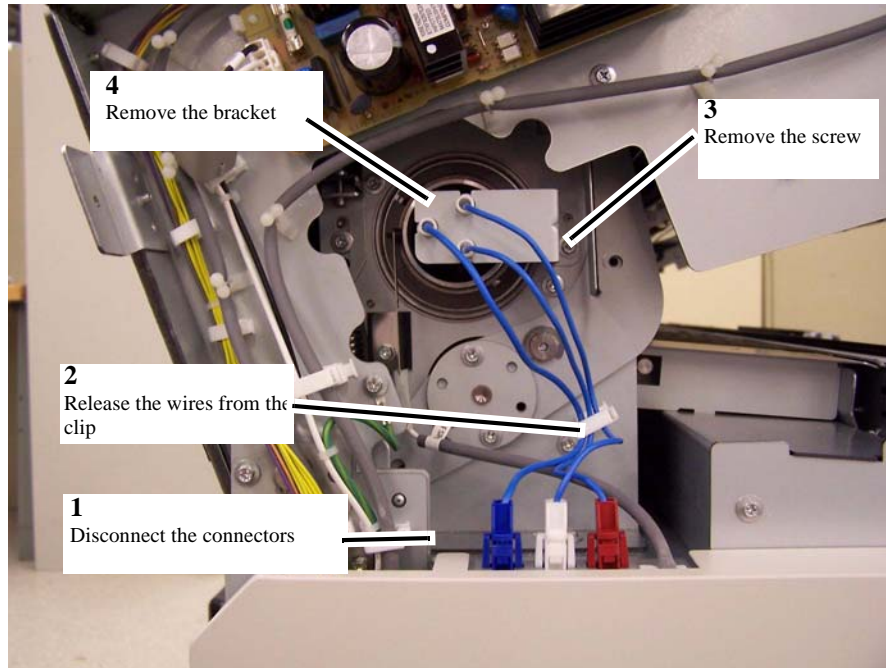

Figure 2 Component removal at left end of Heat Rods
6. Remove the components at the left end of the Heat Rods (Figure 2).